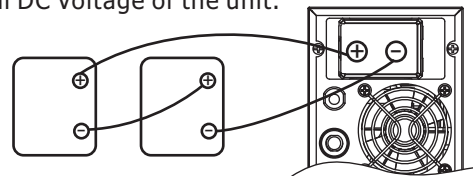

Fig. 3
2)Multiple batteries in series connection(Refer to Fig. 3): All batteries must be equal in voltage and amp hour capacity. The sum of their voltages must be equal to the nominal DC Voltage of the unit.